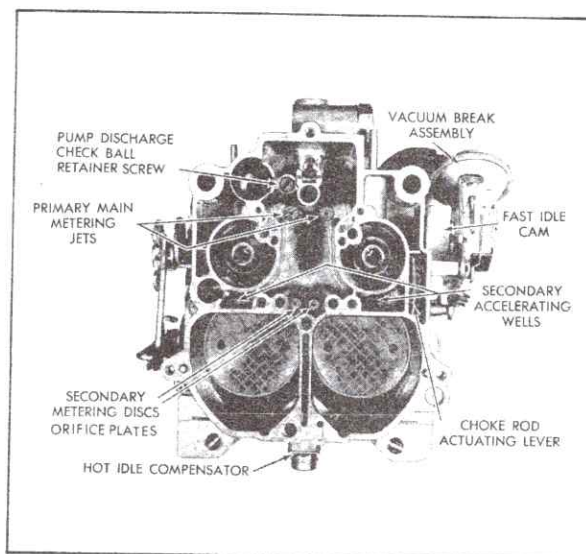

Fig. 6-89 Float Bowl Disassembled
8. Remove primary metering jets, Fig. 6-89. No attempt should be made to remove secondary metering plates.